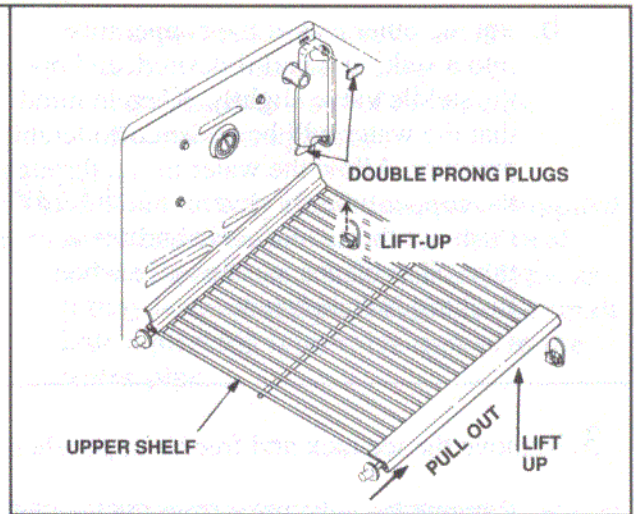

Figure 4
- e. The upper shelf can now be removed by first lifting it out of the hooks on your right, and then pulling the left side of the shelf from the pin holes in the left wall of the freezer. See Figure 4.
- f. Install the double prong plugs from the kit in the slotted holes that were used to mount the ice maker water cover on the back wall. See Figure 4.